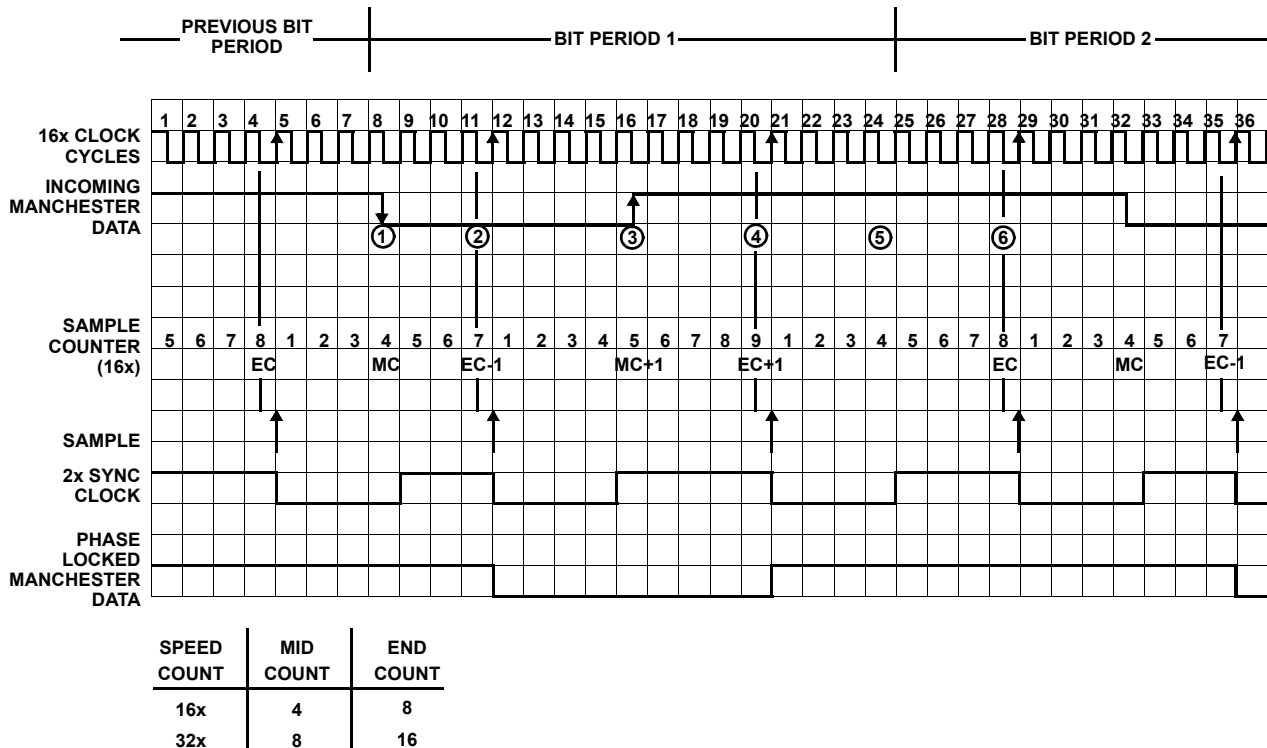

FIGURE 2. DECODER SAMPLING TIMING DIAGRAM
Figure 2 shows examples of the Manchester data transitions occurring earlier than expected, later than expected and not at all. In the first case, the transition occurs at Mid Count ①, which the algorithm considers early, so the sample occurs at EC-1 ②. In the second case, the transition occurs late at MC+1 ③, and the sample is taken at EC+1 ④. The last case
The Clock Synchronizer circuit provides the decoder with a clock signal of 2 times the data rate synchronized with the phase locked Manchester data. This circuit consists of a low-time counter which counts to a value of 4 or 8 depending upon the speed selected, and toggles the clock to a high level. When DPLL circuit samples the incoming data, the counter is reset to '0' and the clock is brought low. The counter then begins its counting sequence again. Note that the 2x clock high time may vary depending upon where the DPLL sampling actually occurs (i.e. EC-1, EC or EC+1). Nominally, the 2x clock should have a high time and low time of 4 oscillator clock cycles (assuming 16x Clock speed). Figure 2 shows examples of the 2x clock being adjusted for synchronization with the incoming Manchester data. The high time is reduced to 3 oscillator clock periods when sampling occurs at EC-1 ②. It is increased to 5 oscillator clock periods, when sampling occurs at EC+1 ④, and remains at 4 oscillator clock periods when sampling actually occurs at EC ⑥. This counting and reset sequence is continuously repeated, thereby ensuring that the clock is synchronized with the Manchester data at all times.